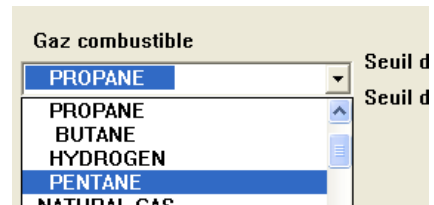

Figure 40: programming combustible gas
- Choose another gas from the list and click on Programming combustible gas (Figure 40: programming combustible gas).